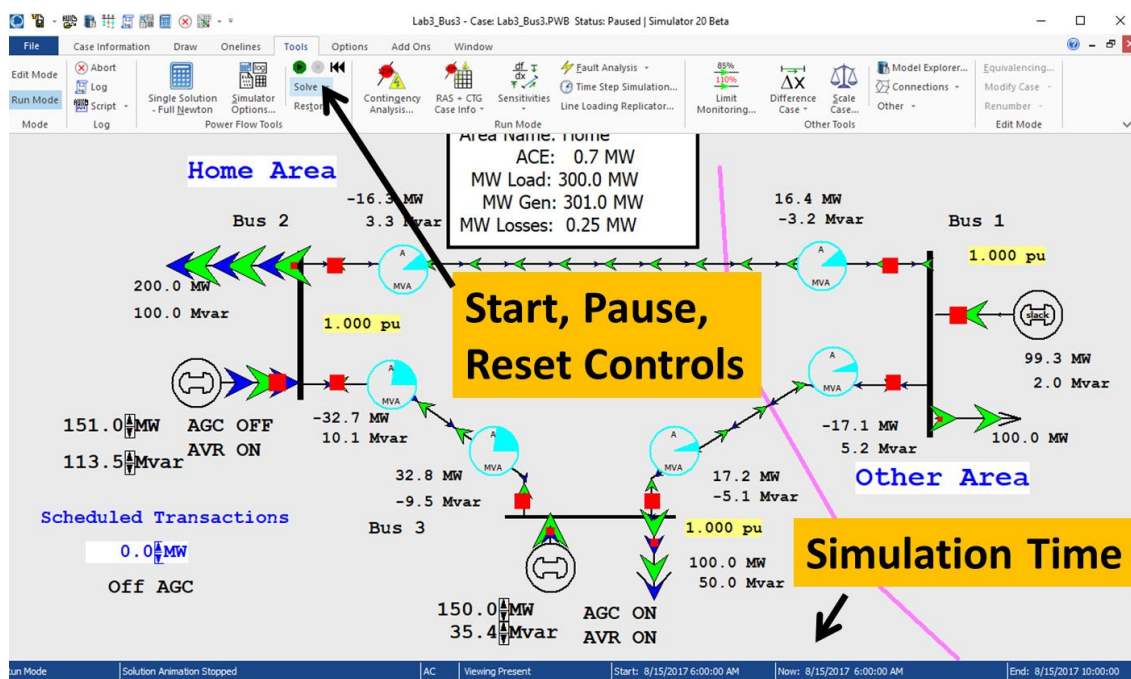

Figure 1: Three Bus, Two Area System
1. Start PowerWorld Simulator. Open the Lab3_Bus3 case. This is a three bus, two balancing authority (BA) area case that was demonstrated during lecture. You'll be operating the "Home Area," which consists of buses 2 and 3; the "Other Area" just has bus 1. The case is set to run a four hour time-domain simulation, modeling a load increase between 6am and 10am in the morning. The simulation is set to run at 60 times real-time, meaning the four hour simulation will run in four minutes. The oneline for this system is shown in Figure 1. Note the location of the Start, Pause and Reset buttons in the top menu, and also the simulation time shown on the bottom ribbon.